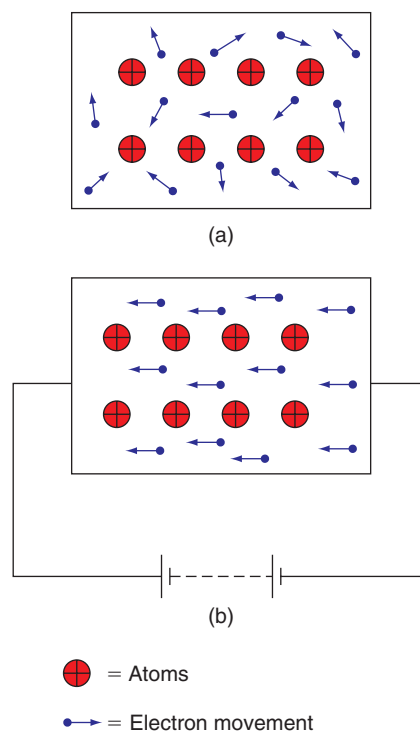

FIGURE 2.2
- If a battery is attached to a “good conductor” material, the free electrons drift toward the positive terminal, as shown in Fig. 2.2.